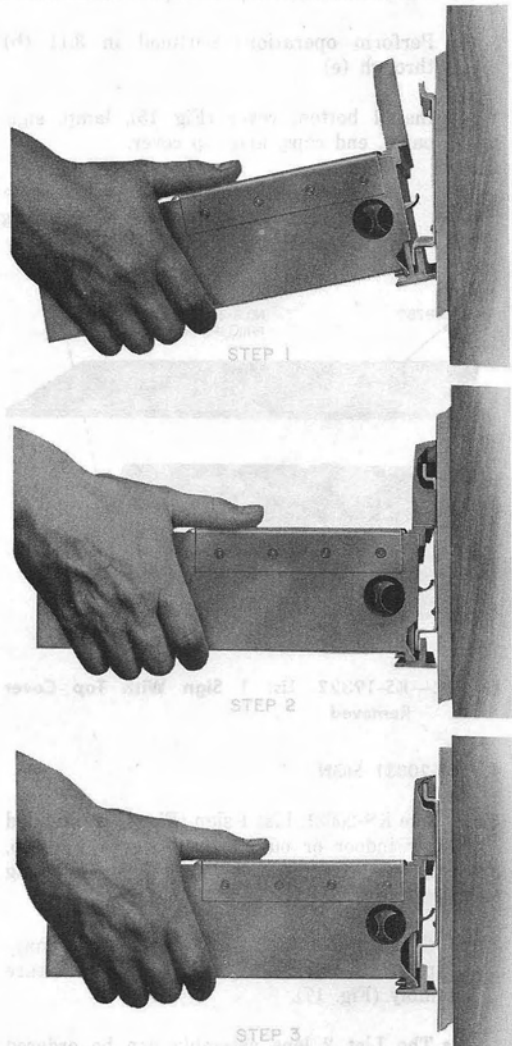

Fig. 14—Installation of KS-19322 Sign
- (c) Engage lower slot of sign with lower flange of backplate (Fig. 14, Step 1).
- (d) Raise sign assembly as far as possible and tilt top of sign toward wall (Fig. 14, Step 2).
(e) Allow sign to slide down, engaging upper slot and flange (Fig. 14, Step 3).